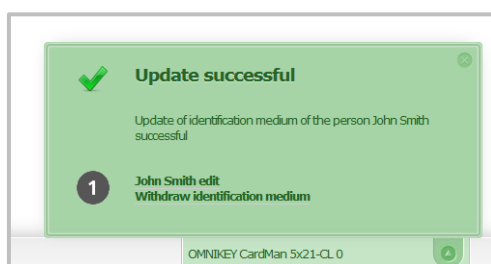

Figure 126: Withdrawing access media
- Select **Withdraw access medium** ❶ (Figure 126: Withdrawing access media).